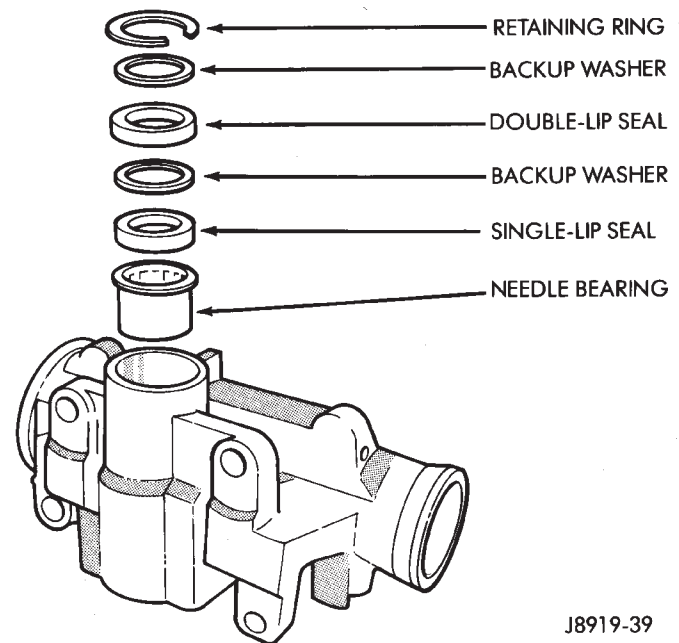

Fig. 35 Pitman Shaft Seals
- (1) Remove pitman arm from gear. Refer to Pitman Arm Removal in Steering Linkage.
- (2) Clean exposed end of pitman shaft and housing. Use a wire brush to clean the shaft splines.
- (3) Remove retaining ring with snap ring pliers (Fig. 35).